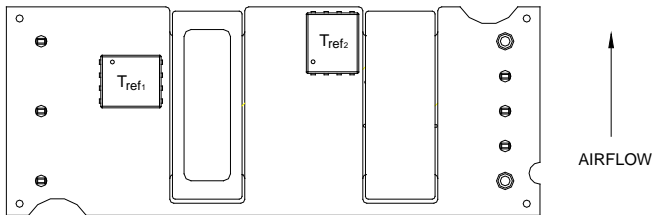

Figure 13. T_{ref} Temperature Measurement Locations for Open Frame Module.
The thermal reference points, T_{ref1} , and T_{ref2} used in the specifications for open frame modules are shown in Figure 13. For reliable operation these temperatures should not exceed 124 °C & 121 °C respectively